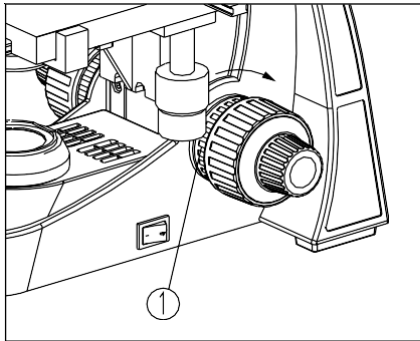

Fig.11
If the handle is very heavy when focusing, or the specimen leaves the focus plane after focusing, or the stage declines itself, rotate the tension adjustment knob ① to resolve the problem (See Fig. 11).